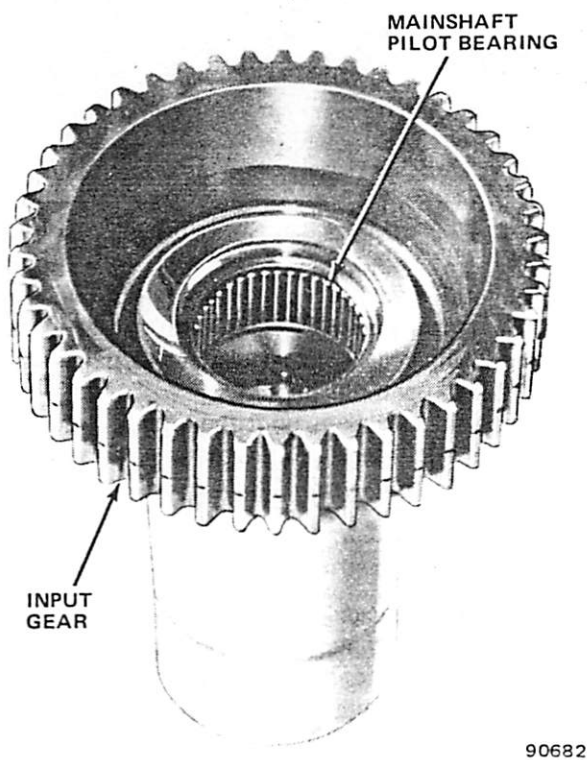

Fig. 2D-34 Mainshaft Pilot Bearing Installation
(8) Install planetary thrust washer on planetary hub (fig. 2D-22).
(9) Install inserts in range fork, if removed.